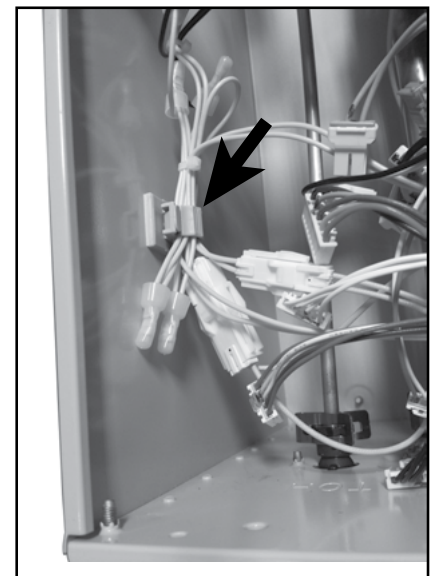

Figure 52.
- 4.1 Open the clip that secures the yellow wires to the bottom, left-hand side of the cabinet. Remove the wires. See Figure 52.